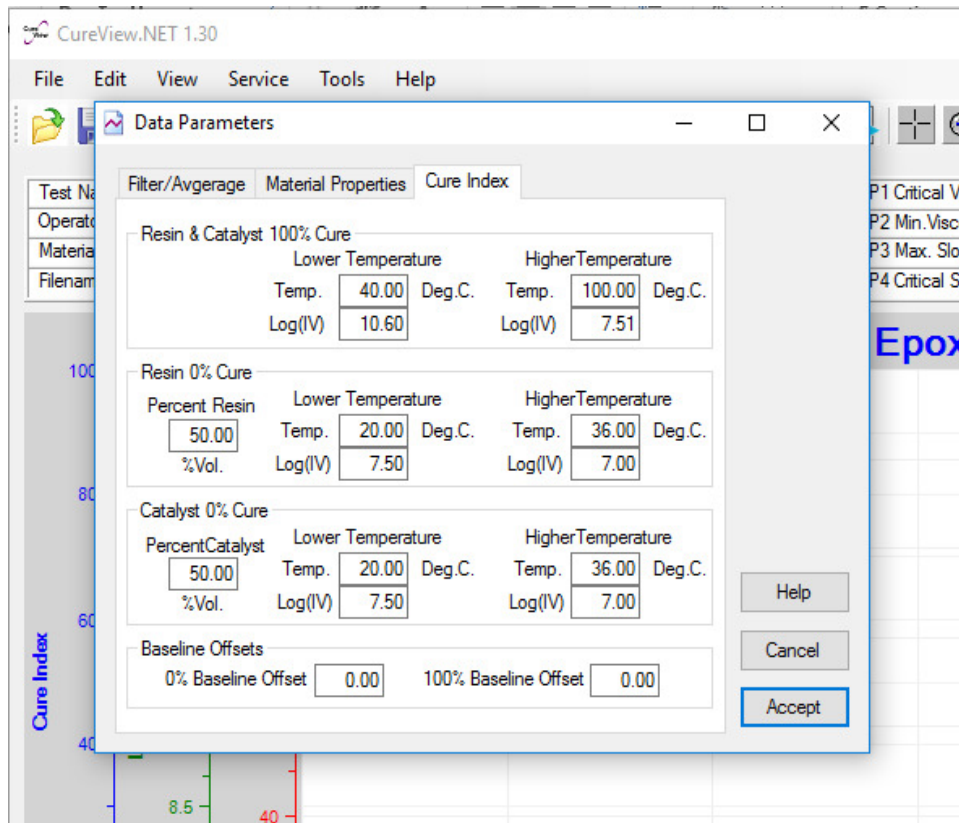
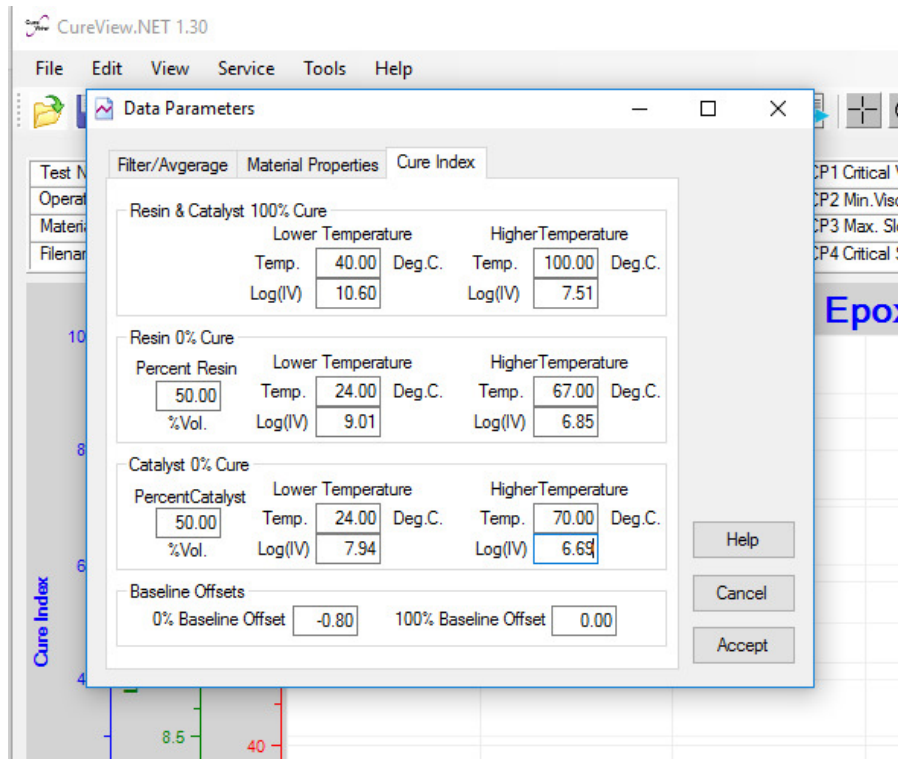

Figure 23-2
Figure 23-3
3. Enter the same temperature and $\log(IV)$ data for **Resin 0% Cure** and **Catalyst 0% Cure**, as shown in the example of Figure 23-2
5. Enter temperature- $\log(IV)$ data for **Resin 0% Cure** and **Catalyst 0% Cure**, as shown in the example of Figure 23-3
3. Enter the temperature and $\log(IV)$ data for **Resin & Catalyst 100% Cure**, as shown in the examples of Figure 23-2 or Figure 23-3